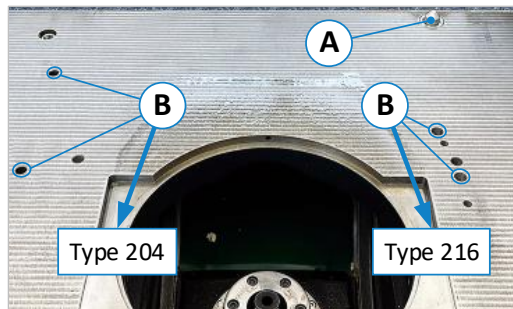

Figure 53: Locking bolts and detent holes
Placing and aligning the fence on the machine table is identical for both fence types (216 and optionally 204). However, the position of the centring pins (Z) is (seen from the front) on the right side of the fence for type 216 and on the left side for types 204 (see ⇒ Figure 53).